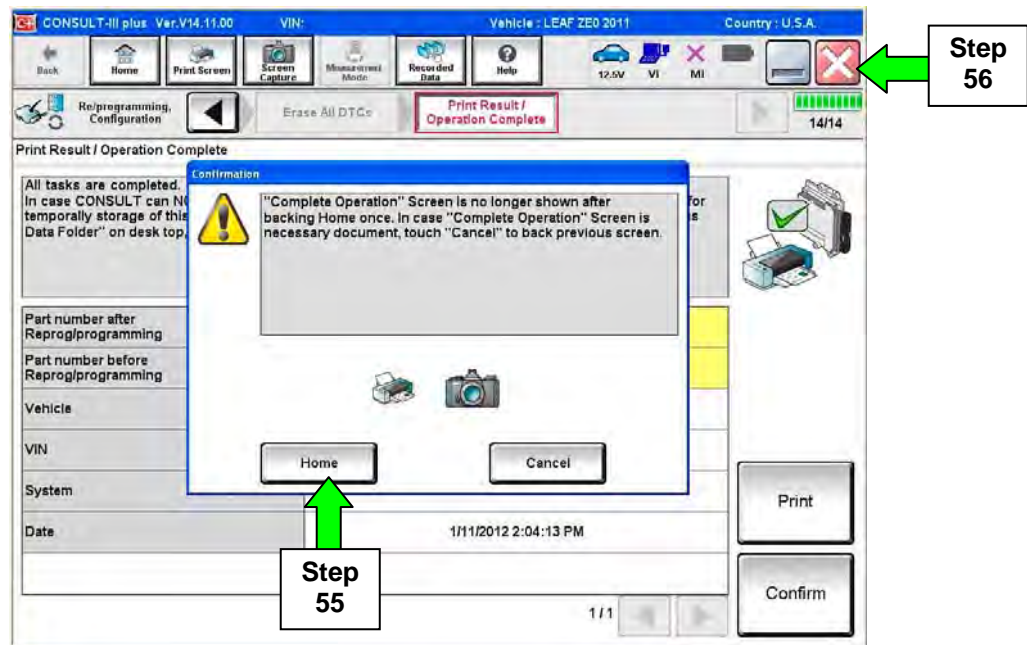

Figure 56
56. Close C-III plus by selecting “X” in Figure 56.